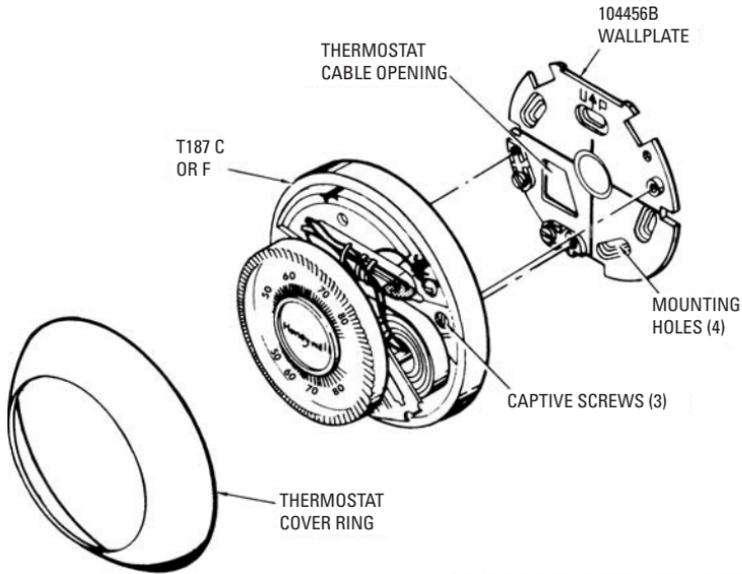

Figure 4-27 Removing the cover ring. (Courtesy Honeywell Tradeline Controls)
1. Remove the thermostat cover ring (see Figure 4-27). The locking cover will require the use of an Allen wrench to loosen the screws securing the cover.